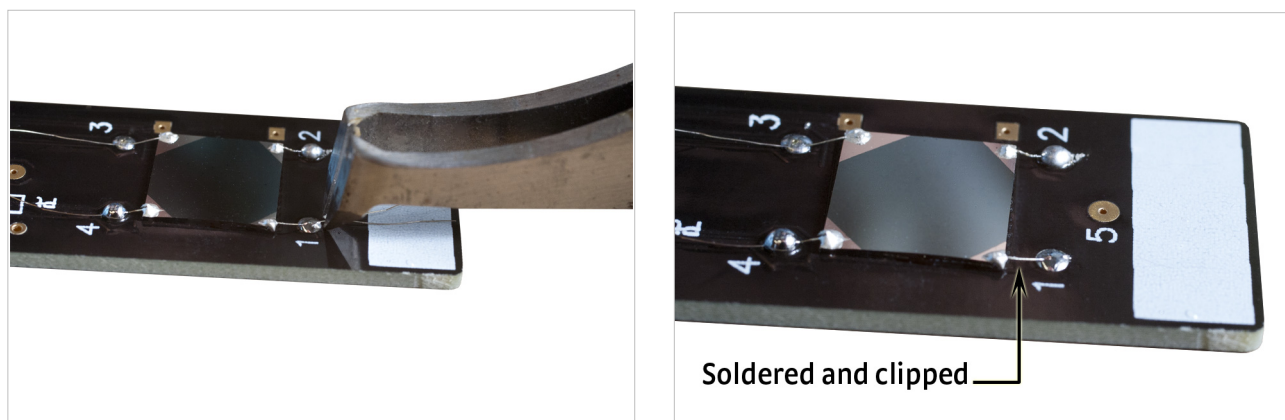

FIGURE 4-12 Left: Clip the excess lead wire; Right: Sample card contacts 1 and 2 are finished contacts
3. Clip the excess lead wire (FIGURE 4-12).